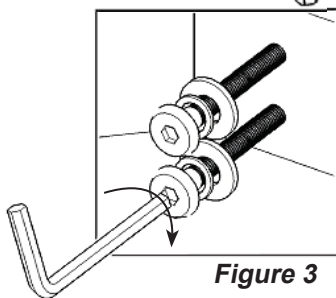

Figure 3
Attach the Back Frame (D) to the unit with Flat Washers, Spring Washers, Head Cap Bolts (Short), Head Cap Bolts (long) and Wood Screws. (see Figures 3 and 4)